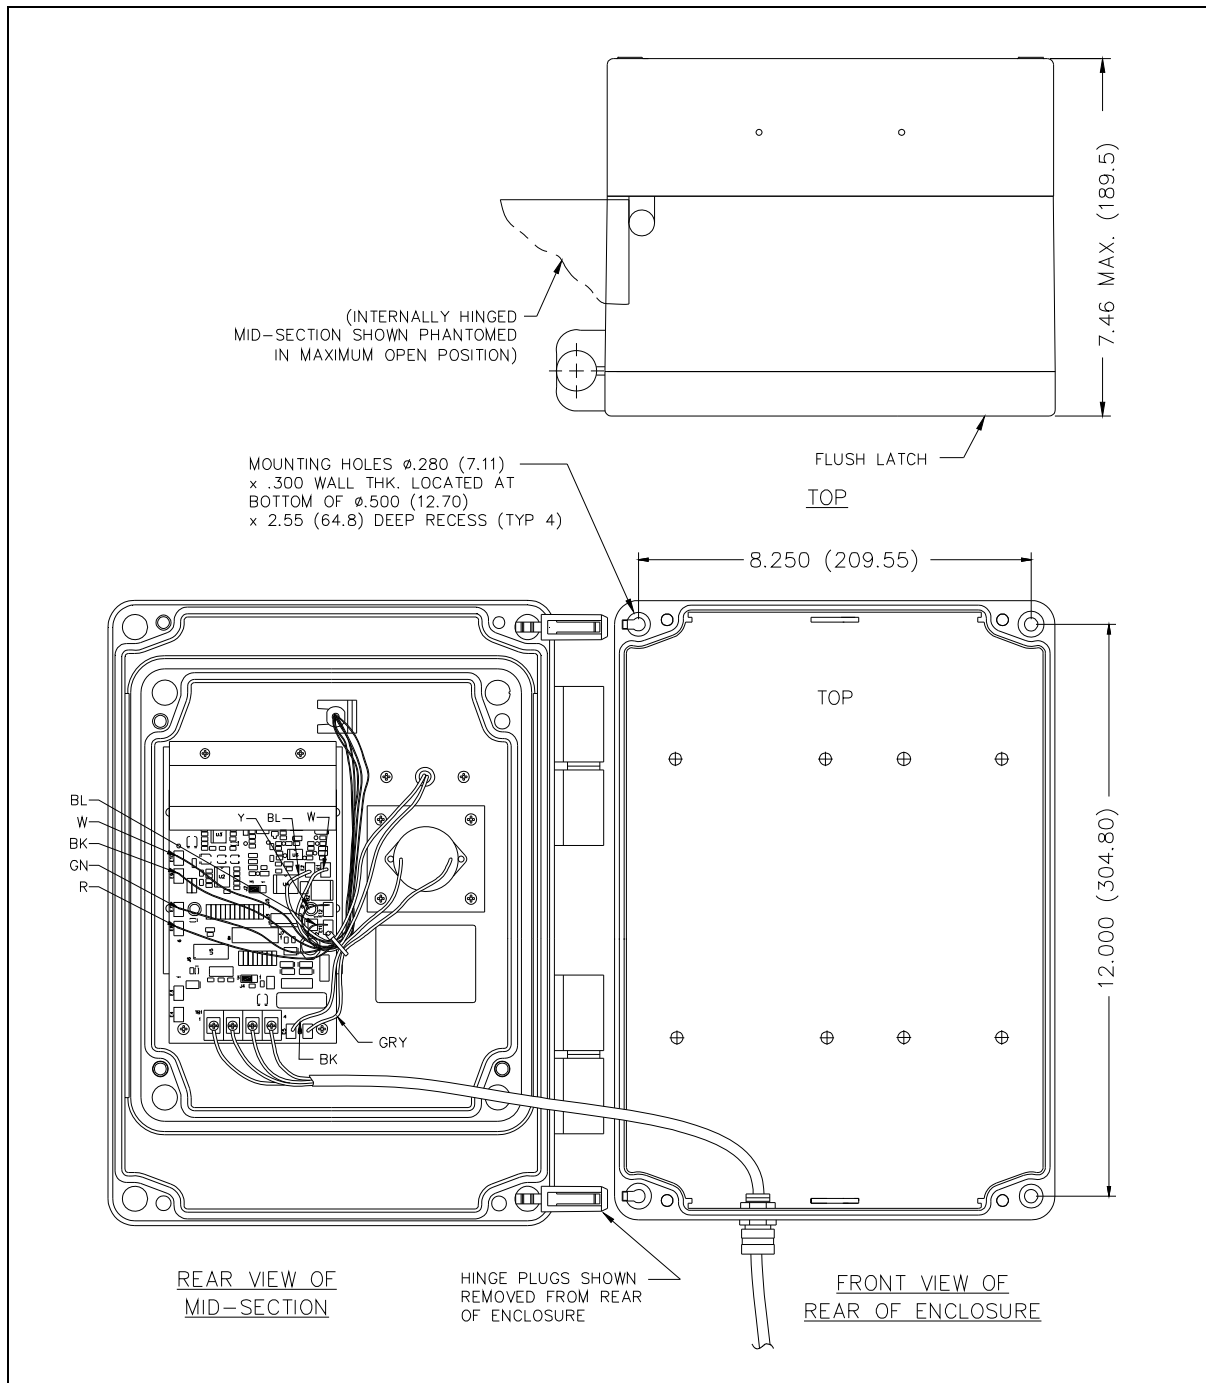

Figure 10. Model 257-001 Mounting Detail
2. Open the front half of the enclosure to the left until the length of the telephone cord inside the enclosure can be disconnected from the PCBA terminal strip (if connected). See Figure 10. Pull on the left side of the enclosure until the hinge plugs pull loose to separate the front and rear halves. Set the front half of the enclosure aside.
6. There are four mounting holes in the rear enclosure. Mount the enclosure on the wall using four 1/4-20 machine screws with nuts and washers or #14 wood screws of appropriate length for the mounting surface. Refer to Figure 10.